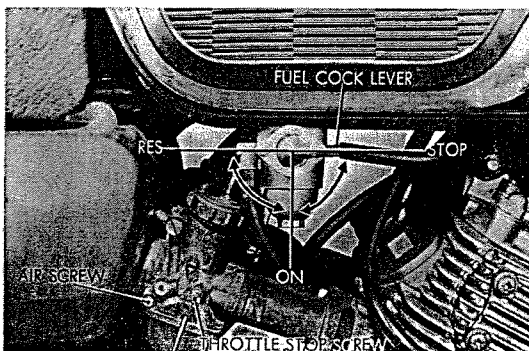

Fig. 6.20 Carburetor
- (1) Turn the limit screw until the strength of both exhausts becomes the same. Speed of the engine should be 1000 to 1200 r.p.m (Refer to Fig. 6.20)
(2) There are two adjustment screws. These should be turned in or out $1/4$ to $1/2$ of a turn. When the highest rpm is reached, return the screw by $1/8$ of a turn to where the best exhaust sound is produced.
(3) Engine speed and exhaust intensity are adjusted by turning the limit screw and idling screw until the idling speed is from 1000 to 1200 r.p.m.